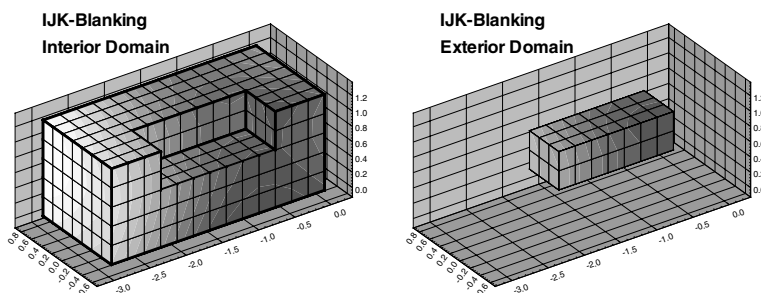

Figure 26-8. IJK-blanking with Interior domain (left) and Exterior domain (right).
- **Interior:** Cells within the specified index ranges are blanked. Those outside are plotted. This creates a “hole” in the zone. The left side of Figure 26-8 shows an ordered zone with IJK-blanking with Interior domain.
- **Exterior:** Cells outside the specified index ranges are blanked. Those inside are plotted. This plots a sub-zone of the zone. The right side of Figure 26-8 shows an ordered zone with IJK-blanking with Exterior domain.